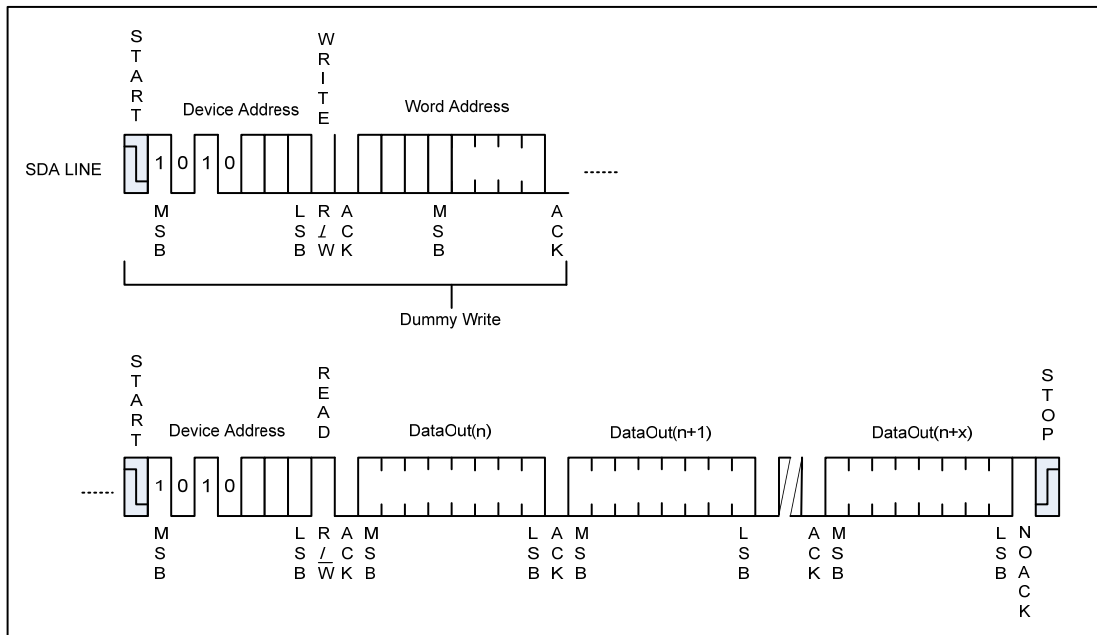

Figure9 Sequential Read
**SEQUENTIAL READ:** Sequential reads are initiated by either a current address read or a random address read. After the microcontroller receives a data word, it responds with an acknowledge. As long as the EEPROM receives an acknowledge, it will continue to increment the data word address and serially clock out sequential data words. When the memory address limit is reached, the data word address will “roll over” and the sequential read will continue. The sequential read operation is terminated when the microcontroller does not respond with a “0” but does generate a following stop condition (see Figure 9)